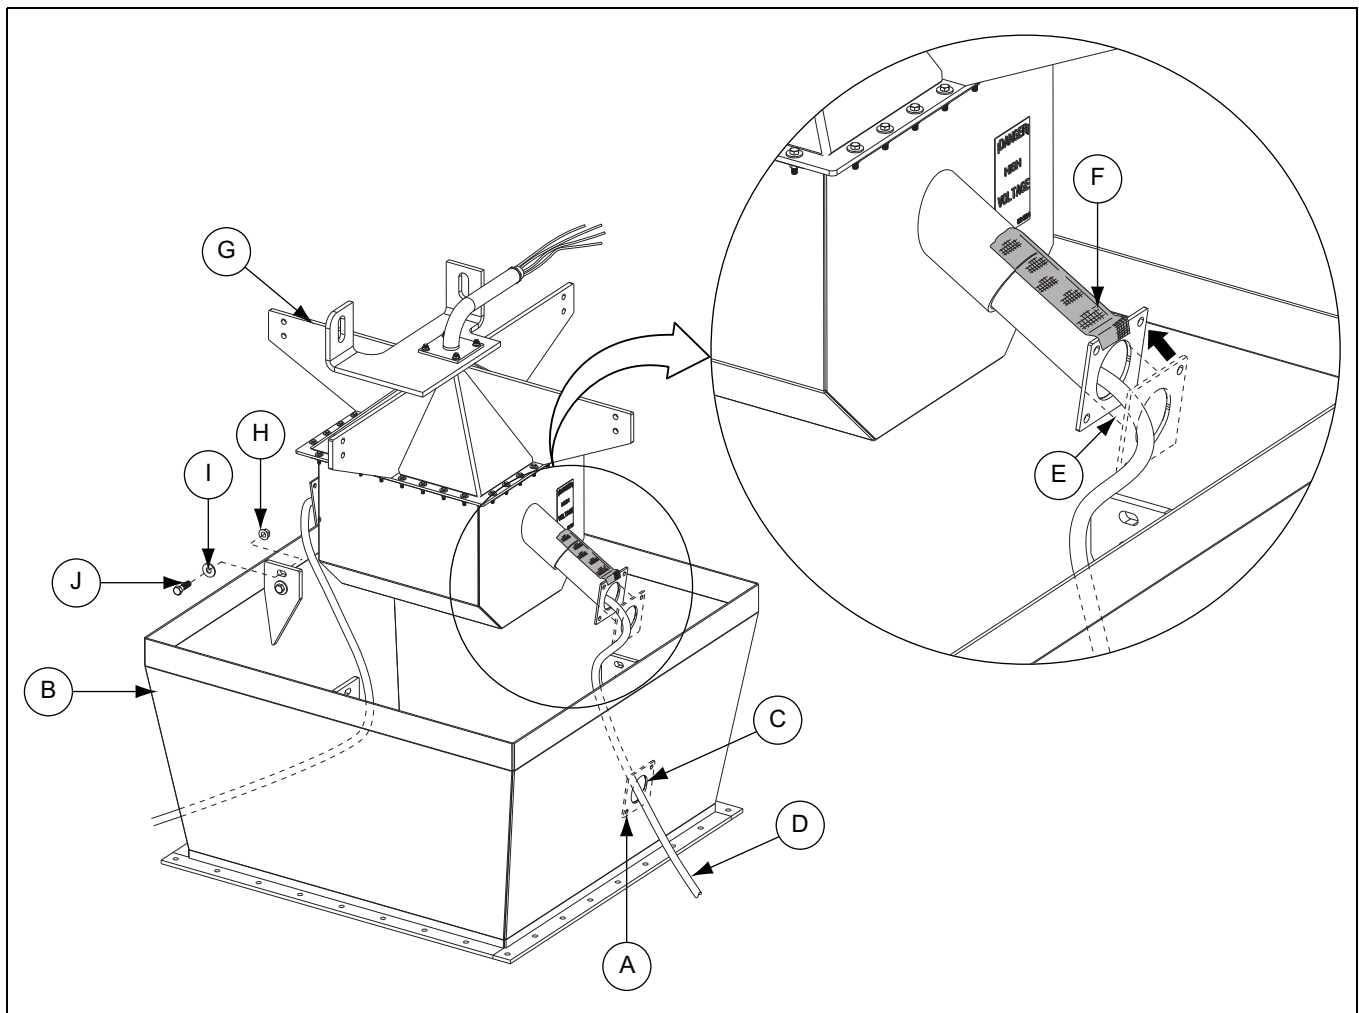

Figure 4H
- Determine the correct hole size needed for each lower flex conduit (D) and drill hole (C) from the center of the traced outline (A). (See Figure 4H.)